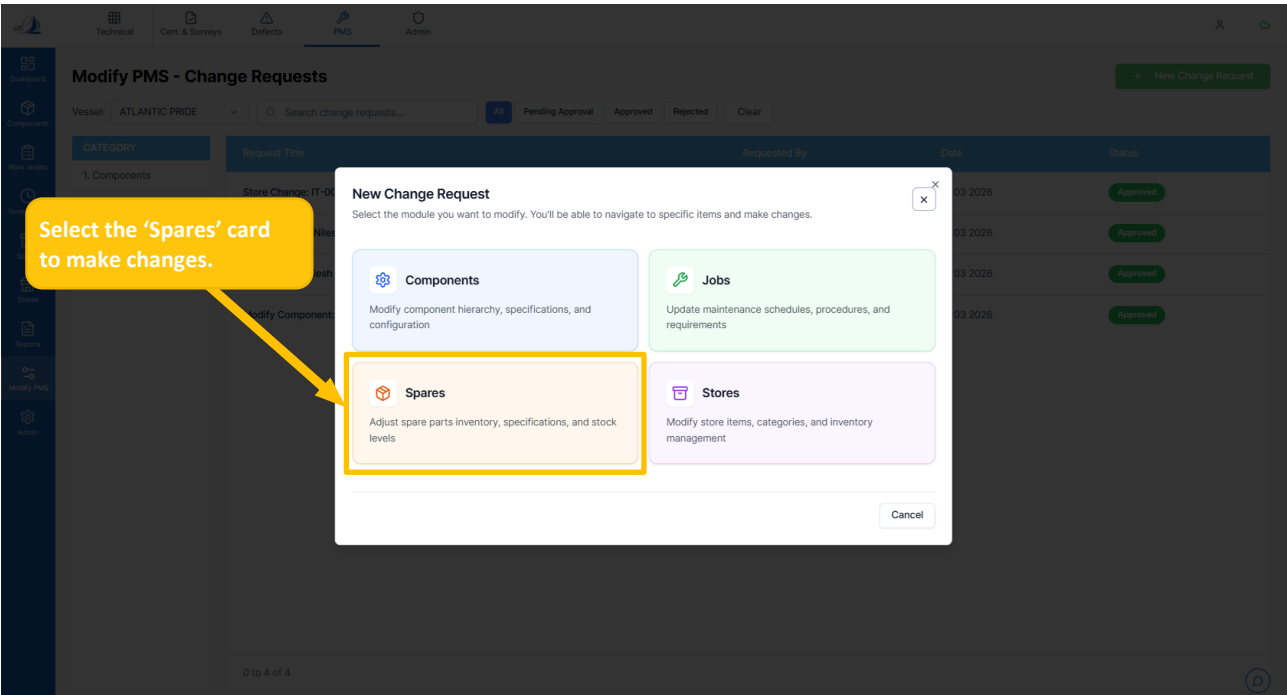

Figure 76
- Select the 'Spares' card to change or modify. (Ref. Figure 76)